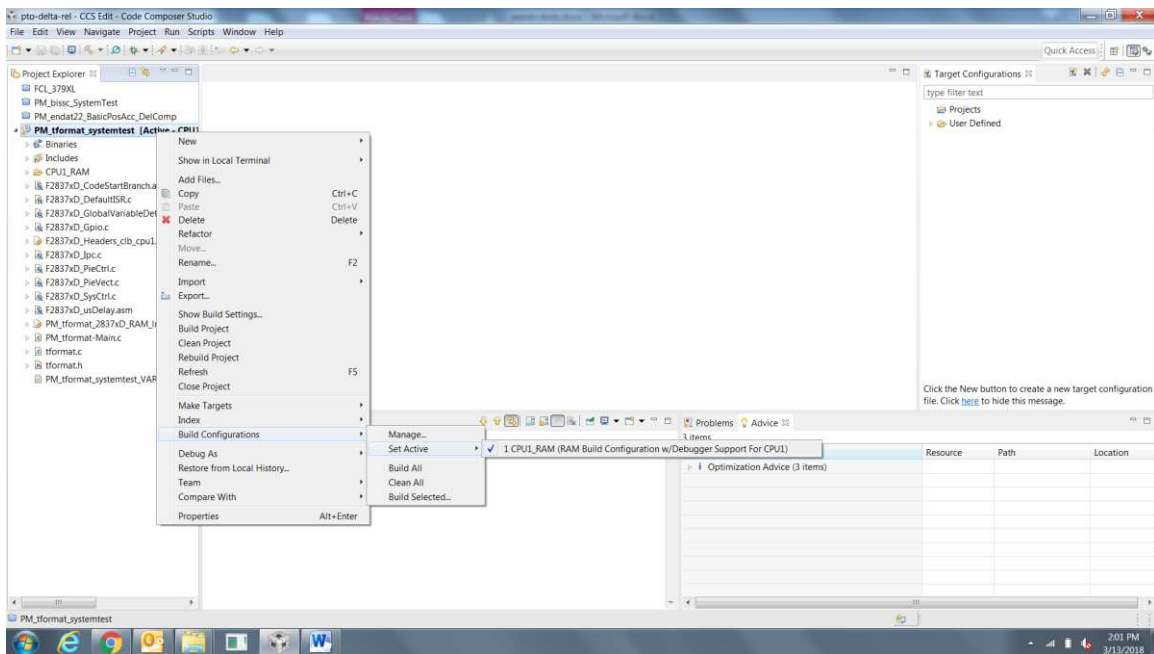

图 9. Selecting F2837x_RAM Configuration
- As shown in 图 9, right-click on an individual project and select *Active Build Configuration* → *CPU1_RAM configuration*.